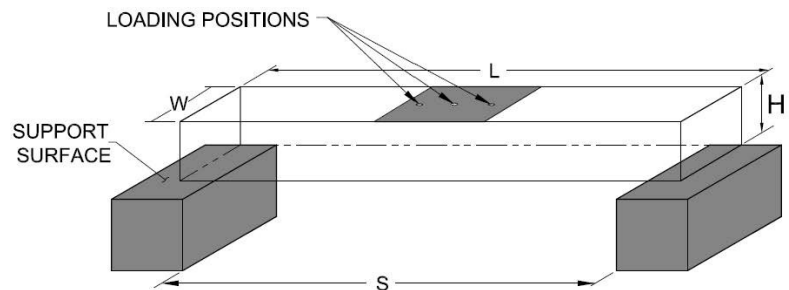

Figure 1
- b. The bridge must span a gap (**S**) of 300-mm (**hint: bridge must be longer than 300-mm**), be no longer (**L**) than 400-mm, be no shorter (**H**) than 50-mm and no taller than 80-mm above the support surface, and be no wider (**W**) than 60-mm and not less than 30-mm. No part of the bridge may extend below the support surface (**see Figure 1**).
- c. The bridge must be constructed to include a horizontal loading plane that provides support for three possible loading positions along the longitudinal axis of the bridge. The three loading positions are located at the center of the bridge and 50-mm to either side of the center of the bridge. (**see Figure 1**). **NOTE: Load will be applied at the center of one loading position as described in section 4b.**
- d. The loading plane shall be horizontal and shall lie on the physical top of the bridge between 50-mm and 80-mm above the support surfaces (**hint: top of the bridge must be taller than 50-mm but not exceed 80-mm in total height**) (**see Figure 1**).